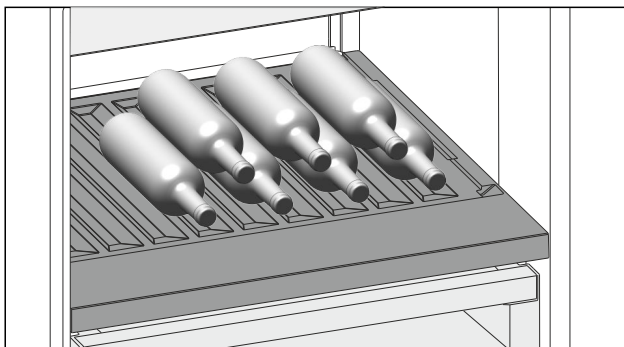

Fig. 163
- Place bottles in the back row with their bases against the back wall. (see Fig. 163)